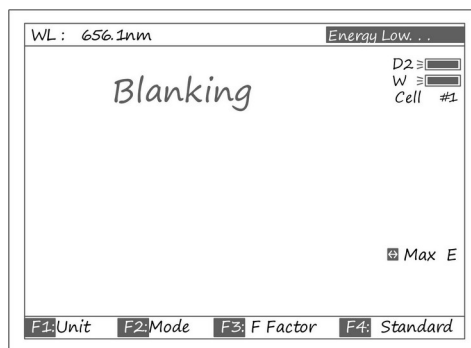

Fig 8
- 2. If no automatic changer installed “cell #1” and “Max E” will disappear in Fig8